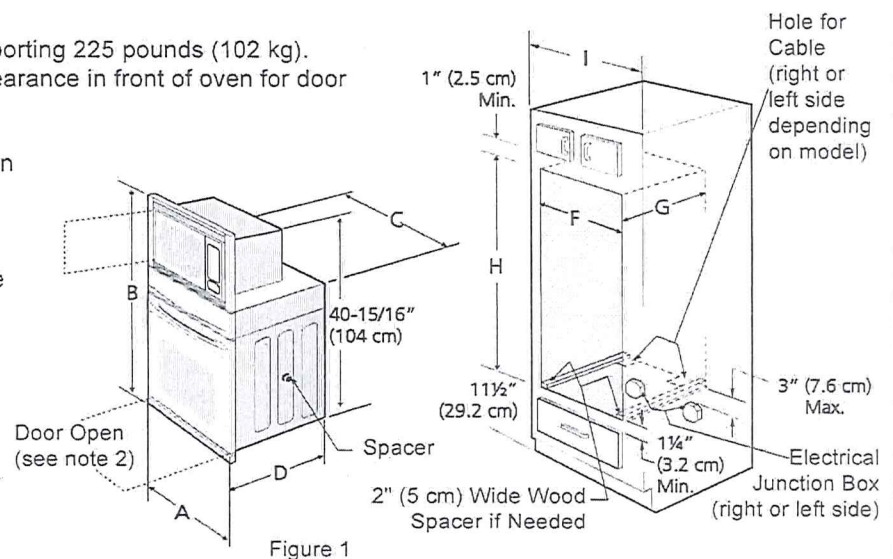

Figure 1
Refer to figure 1 for the dimensions applicable to your appliance, and the space necessary to receive the combination oven. The oven support surface may be solid plywood or similar material, however the surface must be leveled from side to side and from front to rear.
2. These appliances should be connected to the fused disconnect (or circuit breaker) box through flexible armored or nonmetallic sheathed cable. The flexible armored cable extending from the appliance should be connected directly to the junction box. The junction box should be located as shown in Figure 1 or Figure 2 and with as much slack as possible remaining in the cable between the box and the appliance, so it can be moved if servicing is ever necessary.